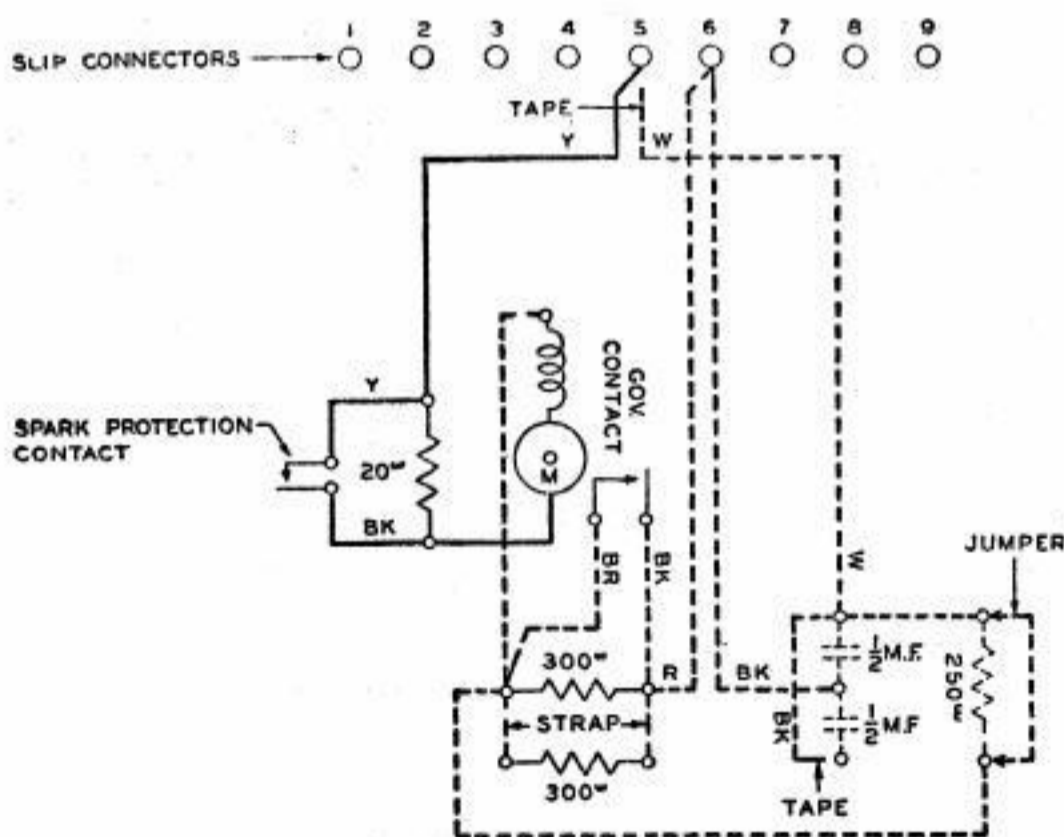

FIG. 2
2.08 Connect and solder the motor wire, the 87469(M) cable, and the 78206(M) resistance unit as shown in the wiring diagram Fig. 2.